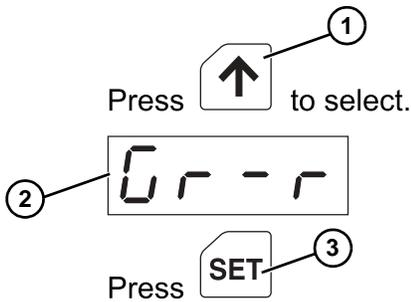

Figure 35
- Press up (Figure 35, item 1) to select “Gr-r”(Figure 35, item 2) (gear ratio), and then press SET (Figure 35, item 3).